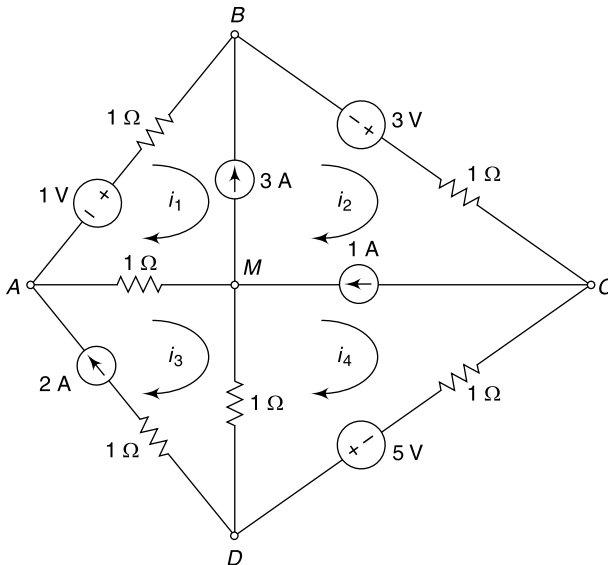

Fig. 4.124 Circuit of Ex. 4.93
4.93 Using mesh analysis obtain the values of all mesh currents of the network shown in Fig. 4.124.
From Fig. 4.124 it can easily be observed that